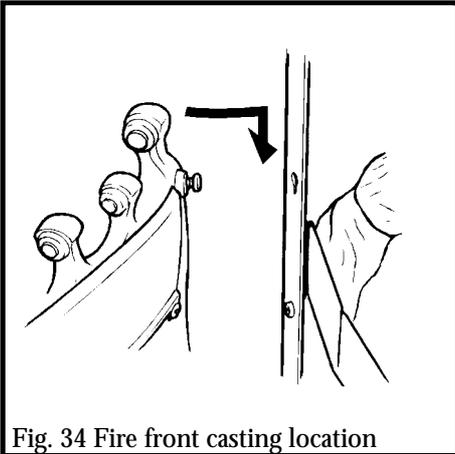

Fig. 34 Fire front casting location
12.1 Fit the fire front casting to the front surround. Locate the two screw heads at the rear top corners of the casting through the keyhole slots at the inner sides of the surround. If the screw heads do not project enough or project too far, the screws can be adjusted. Lower the casting so that it rests on the hearth (see figure 34).